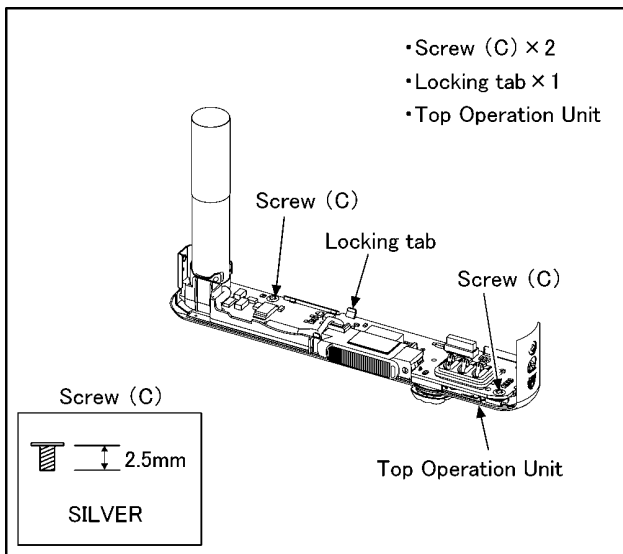

Fig. D6
| 5 | Flash Top P.C.B. | Fig. D6 | 2 Screws (C) | | | |